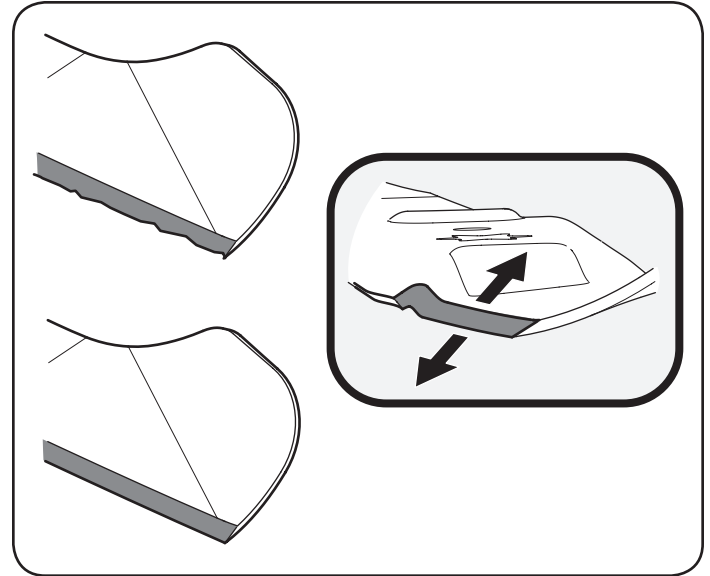

Figure 24
4. To properly sharpen the cutting blades, remove equal amounts of metal from both ends of the blades along the cutting edges, parallel to the trailing edge, at a 25°- to 30° angle. Always grind each cutting blade edge equally to maintain proper blade balance. See Figure 24.